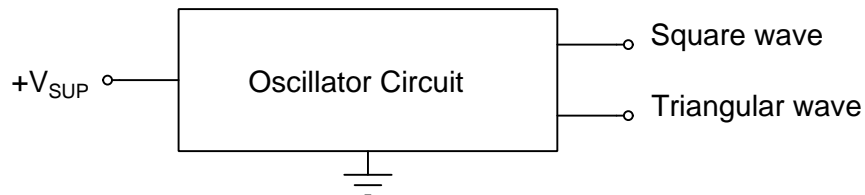
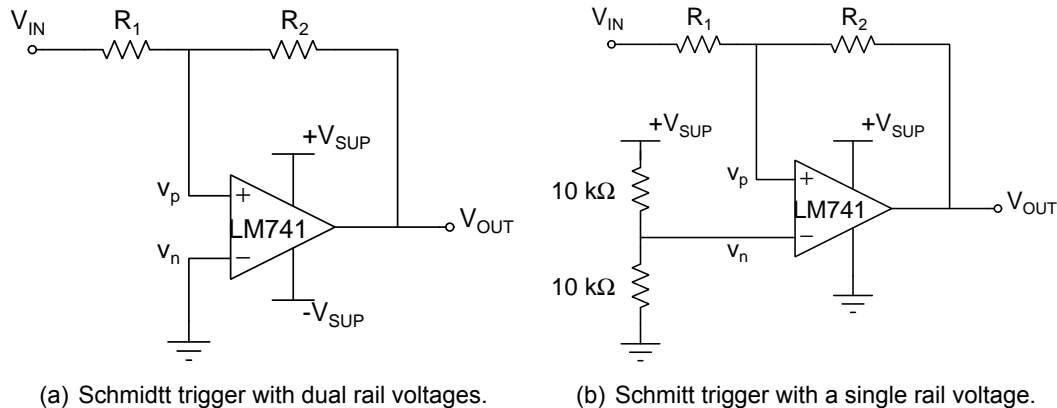
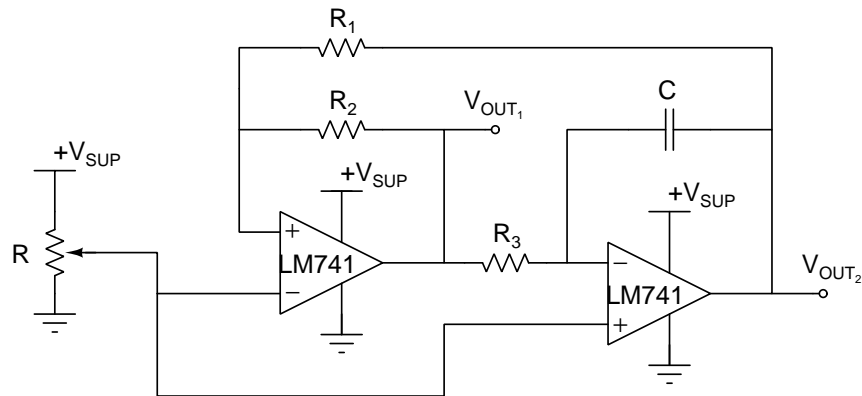

Figure 1: Block diagram of the oscillator circuit showing the inputs and outputs.
Figure 2: Schmitt trigger circuit using an Op Amp with positive feedback.
Figure 3: Oscillator circuit using a Schmitt trigger and an inverting integrator.
Two LM741 Operational Amplifiers (OpAmps) are used to produce an oscillator. A block diagram, showing the inputs and outputs, is shown in Figure 1. The input to the circuit is a DC voltage of $+V_{SUP}$. The output of the circuit consists of a $\sim 10 V_{pp}$ square wave and a $\sim 5 V_{pp}$ triangular wave. The oscillator is formed by connecting the output of a Schmitt trigger, shown in Figure 2, to the input of an inverting integrator (see Lab #4), and then connecting the output of the inverting integrator back to the input of the Schmitt trigger. The complete oscillator circuit is shown in Figure 3.
1. There are many ways to implement a Schmitt trigger. One method uses an OpAmp configured with positive feedback as shown in **Figure 2(a)**, for a dual-rail OpAmp, and **Figure 2(b)** for a single-rail OpAmp. In these circuits, the output of the OpAmp (V_{OUT}) is connected through resistor R_2 to the **non-inverting** input (v_p) of the OpAmp. This results in an amplifier circuit with positive feedback.
Assume the OpAmp in **Figure 2(b)** is ideal. Analyze this circuit and derive an equation for the two trigger levels in terms of the resistor values R_1 and R_2 . When $R_1 = 3\text{ k}\Omega$ and $R_2 = 12\text{ k}\Omega$, calculate the trigger levels that cause the output to switch from zero to $+V_{SUP}$, and from $+V_{SUP}$ to zero, and
2. For the Schmitt trigger circuit in **Figure 2(b)**, determine values for resistors R_1 and R_2 so that the separation of the Schmitt trigger levels are $5 \pm 0.2\text{ V}$. Assume the OpAmp is ideal and $+V_{SUP} = 12\text{ V}$. With the chosen values of R_1 and R_2 , what are the two Schmitt trigger levels?
3. Simulate the transfer function of the Schmitt trigger circuit in **Figure 2(b)** with the resistor values you calculated in **item 2**. Set the power supply voltage ($+V_{SUP}$) to 12 VDC , and the input voltage (V_{IN}) to a DC voltage source. Use DC analysis to sweep the input voltage between 0 to 12 V . A MATLAB® file for NGspice is available at https://ece214.davidkotecki.com/docs/Matlab/ECE214_2021_Lab5_Schmitt.m. Analyze the simulated behavior of the circuit using both the ideal OpAmp and the LM741 OpAmp.
- Describe the function of the circuit shown in Figure 3. Assume the variable resistor is set to the mid-point resistance. Sketch the shape of the expected output signals V_{OUT1} and V_{OUT2} as a function of time.
- Perform a transient simulation of the circuit of Figure 3 using the Ideal OpAmp. What is the simulated value of the oscillation frequency? What is the duty cycle? A MATLAB® file for NGspice is available at https://ece214.davidkotecki.com/docs/Matlab/ECE214_2021_Lab5_Osc.m.
- Perform a transient simulation of the circuit of Figure 3 using the LM741 OpAmp. Since the OpAmp is not ideal, the value of R_3 you calculated may be off by as much as 20%. Adjust the value of R_3 to produce an oscillation frequency of 5 ± 0.2 kHz.